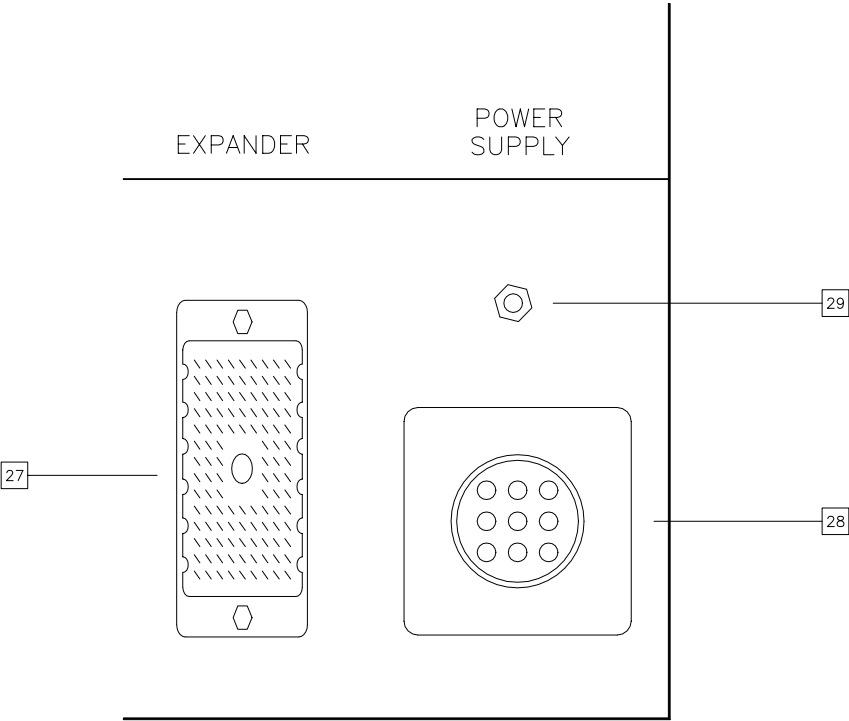

Figure 11. Expander and Power Supply Connectors
Refer to Figure 11 for location of items 27 and 29.